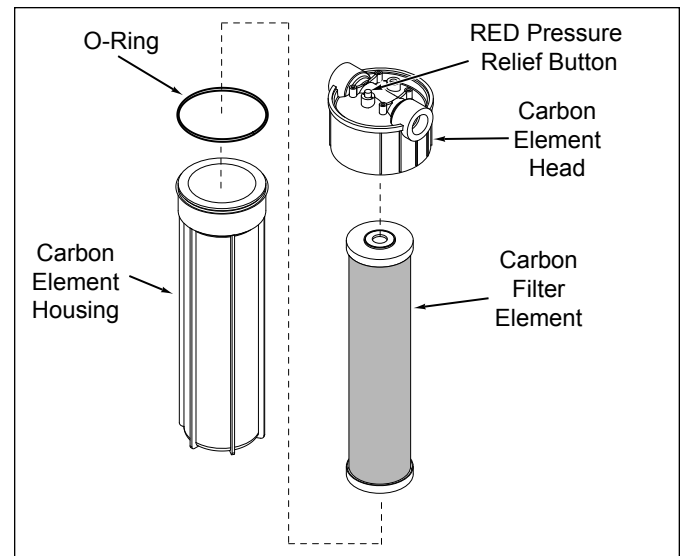

Figure 16. Replacing the TAP Carbon Element
5. When the **03** program completes, press and hold the RED Pressure Relief Button on the top of the Carbon Element Housing (Figure 16) to lower the